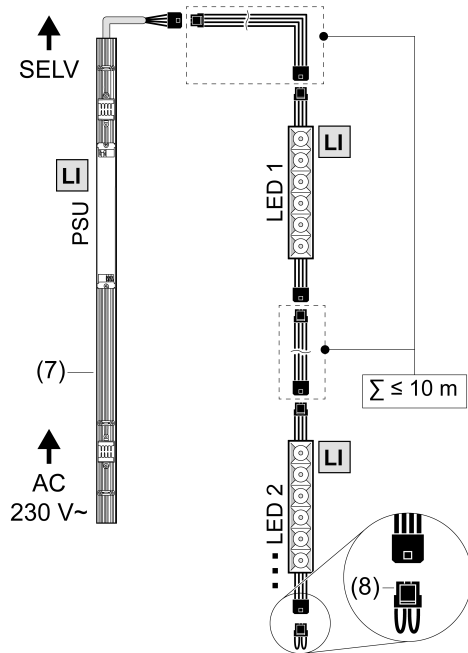

Figure 4: Connection diagram
- Link the light inserts together according to the connection diagram and connect them with a suitable operating device (9) (Figure 4).
- Always put a jumper plug (8) in the outlet of the last light insert of the link.